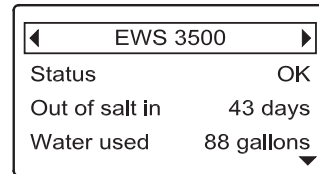

FIG. 104
1. Press the remote’s LEFT (◀) or RIGHT (▶) buttons to manually advance to the status screen for the device you want to check. The device name will show in the header. (See Figure 104).